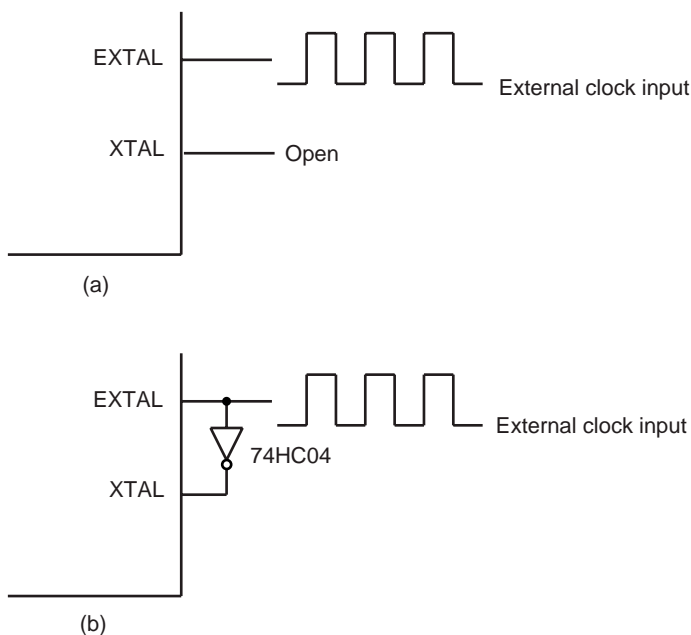

Figure 5.5 External Clock Input (Example)
(2) Input of External Clock Signal
- ① **Circuit Configuration:** An external clock signal can be input as shown in the examples in figure 5.5. In example (b) in figure 5.5, the external clock signal should be kept high during standby.